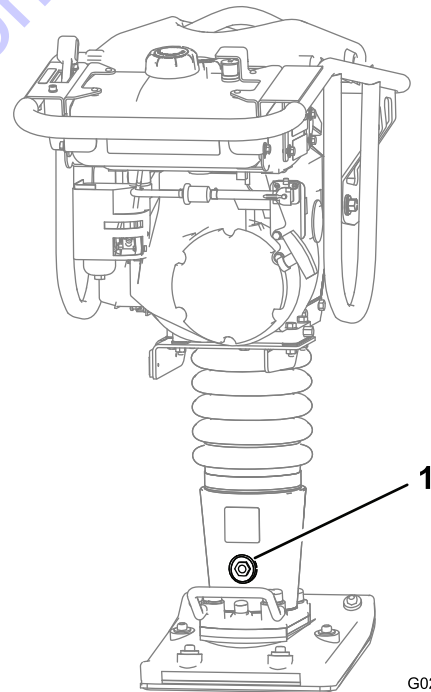

Figure 20
2. Check the oil sight plug (Figure 20), and ensure that the oil level is halfway between the top and bottom of the oil sight plug.